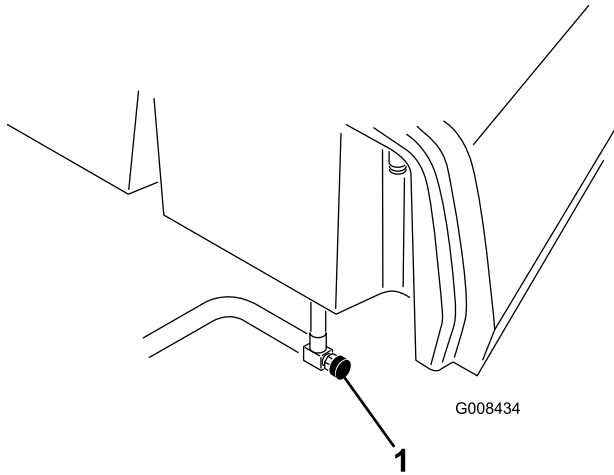

Figure 40
1. Close the fuel shutoff valve (Figure 40) below the fuel tank.